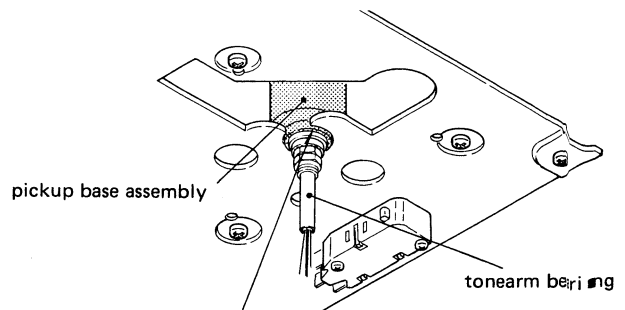

Fig. 3-8
1. Insert the tonearm bearing into the pickup base assembly as far as it will go. Be careful that the pickup lead wires do not get caught between the areas indicated in Fig. 3-8.